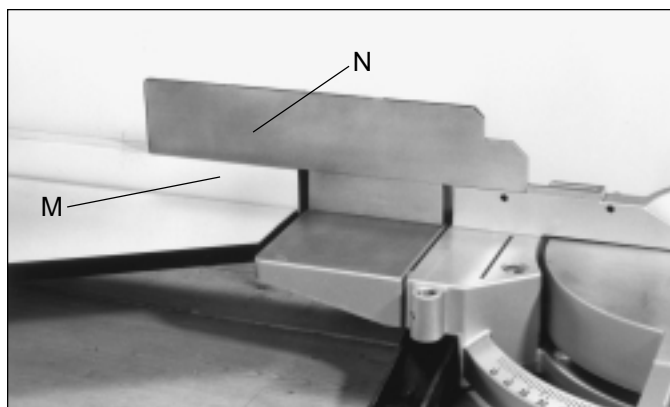

Fig. 9
12. **IMPORTANT:** If the miter saw you are using is equipped with a sliding fence, the sliding fence (N) Fig. 9, must either be removed or modified so that it will slide over the top of the miter table fence (M).